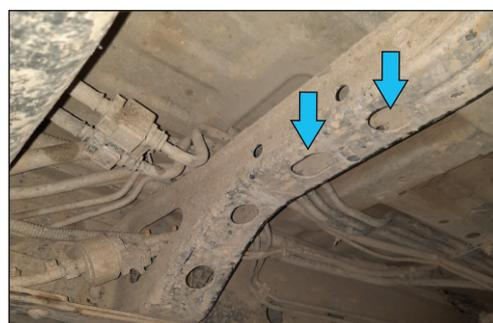

Fig. 10
10. Place Insert Nuts M10x100 (pos.H) in frame rail (Fig.10).